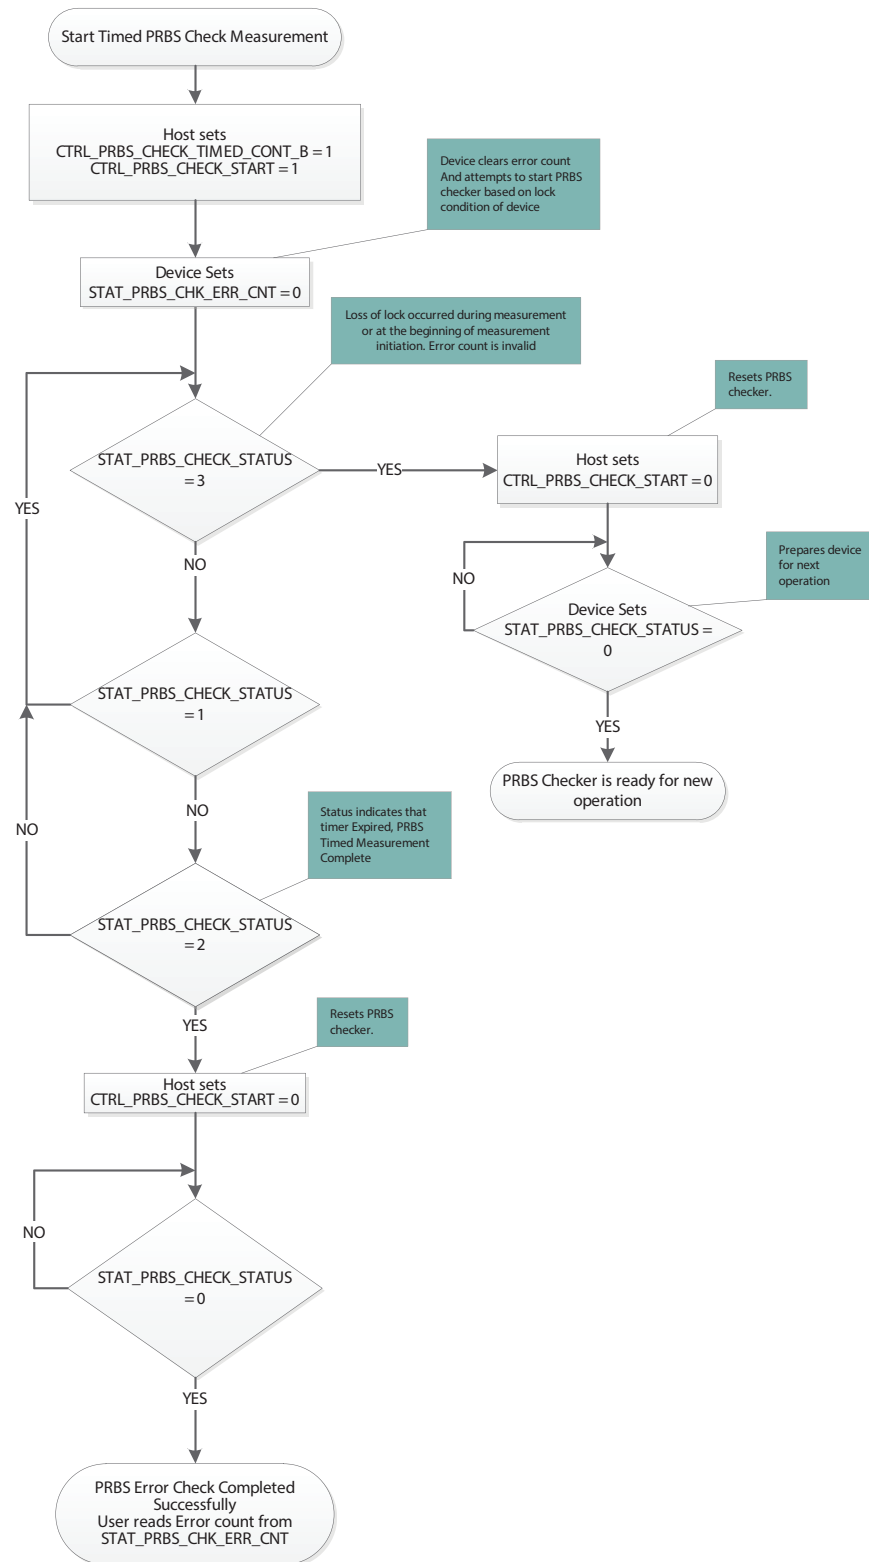

Figure 4-2: Timed PRBS Check Flow
2. Follow the steps outlined in Figure 4-2: Timed PRBS Check Flow.